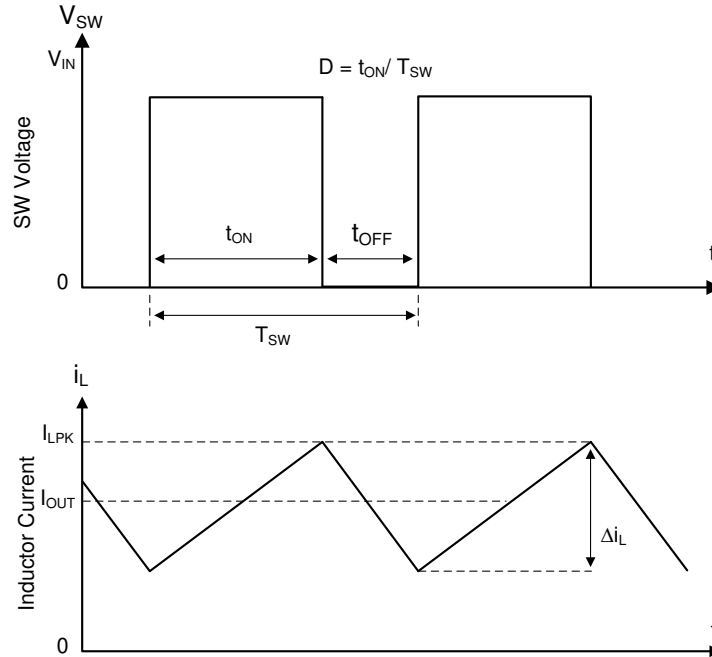

图 8-1. SW Node and Inductor Current Waveforms in Continuous Conduction Mode (CCM)
The following operating description of the LMR544xx refers to 节 8.2 and to the waveforms in 图 8-1. The LMR544xx is a step-down synchronous buck converter with integrated high-side (HS) and low-side (LS) switches (synchronous rectifier). The LMR544xx supplies a regulated output voltage by turning on the high-side and low-side NMOS switches with controlled duty cycle. During high-side switch ON time, the SW pin voltage swings up to approximately V_{IN} , and the inductor current, i_L , increases with a linear slope of $(V_{IN} - V_{OUT}) / L$. When the high-side switch is turned off by the control logic, the low-side switch is turned on after an anti-shoot-through dead time. Inductor current discharges through the low-side switch with a slope of $-V_{OUT} / L$. The control parameter of a buck converter is defined as Duty Cycle $D = t_{ON} / T_{SW}$, where t_{ON} is the high-side switch ON time and T_{SW} is the switching period. The converter control loop maintains a constant output voltage by adjusting the duty cycle D . In an ideal buck converter, where losses are ignored, D is proportional to the output voltage and inversely proportional to the input voltage: $D = V_{OUT} / V_{IN}$.